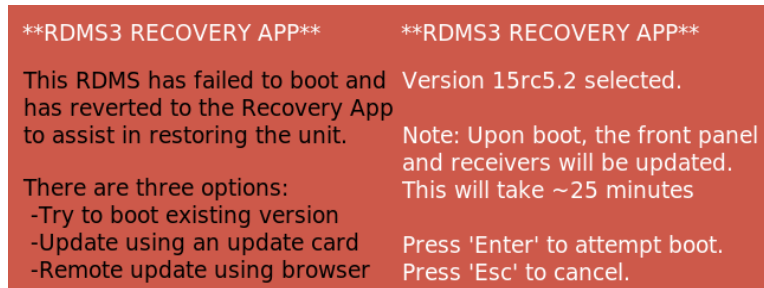

Figure 329: RDMS3 Recovery Application Front Panel, Version Selected
2. Press Enter to confirm and begin the reboot process, as shown in Figure 329.